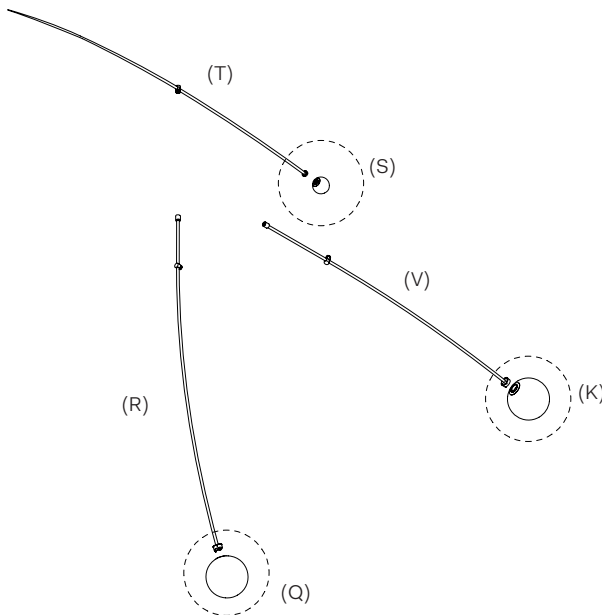
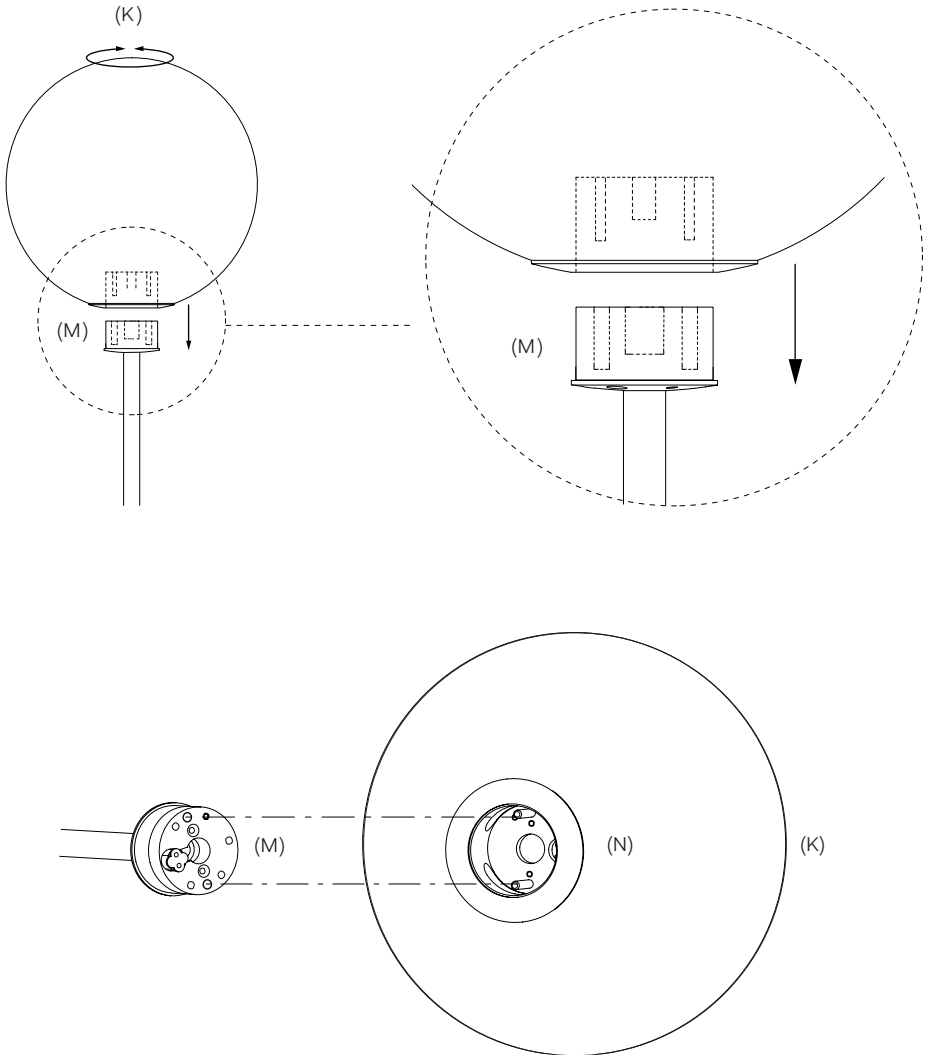

Fig. 14
Fig. 15
Secure the Large Glass Sphere 2 (K) with the supplied M2×20 screw and hex key, ensuring it is tight to keep the connectors flush. See Fig.14 and Fig.15